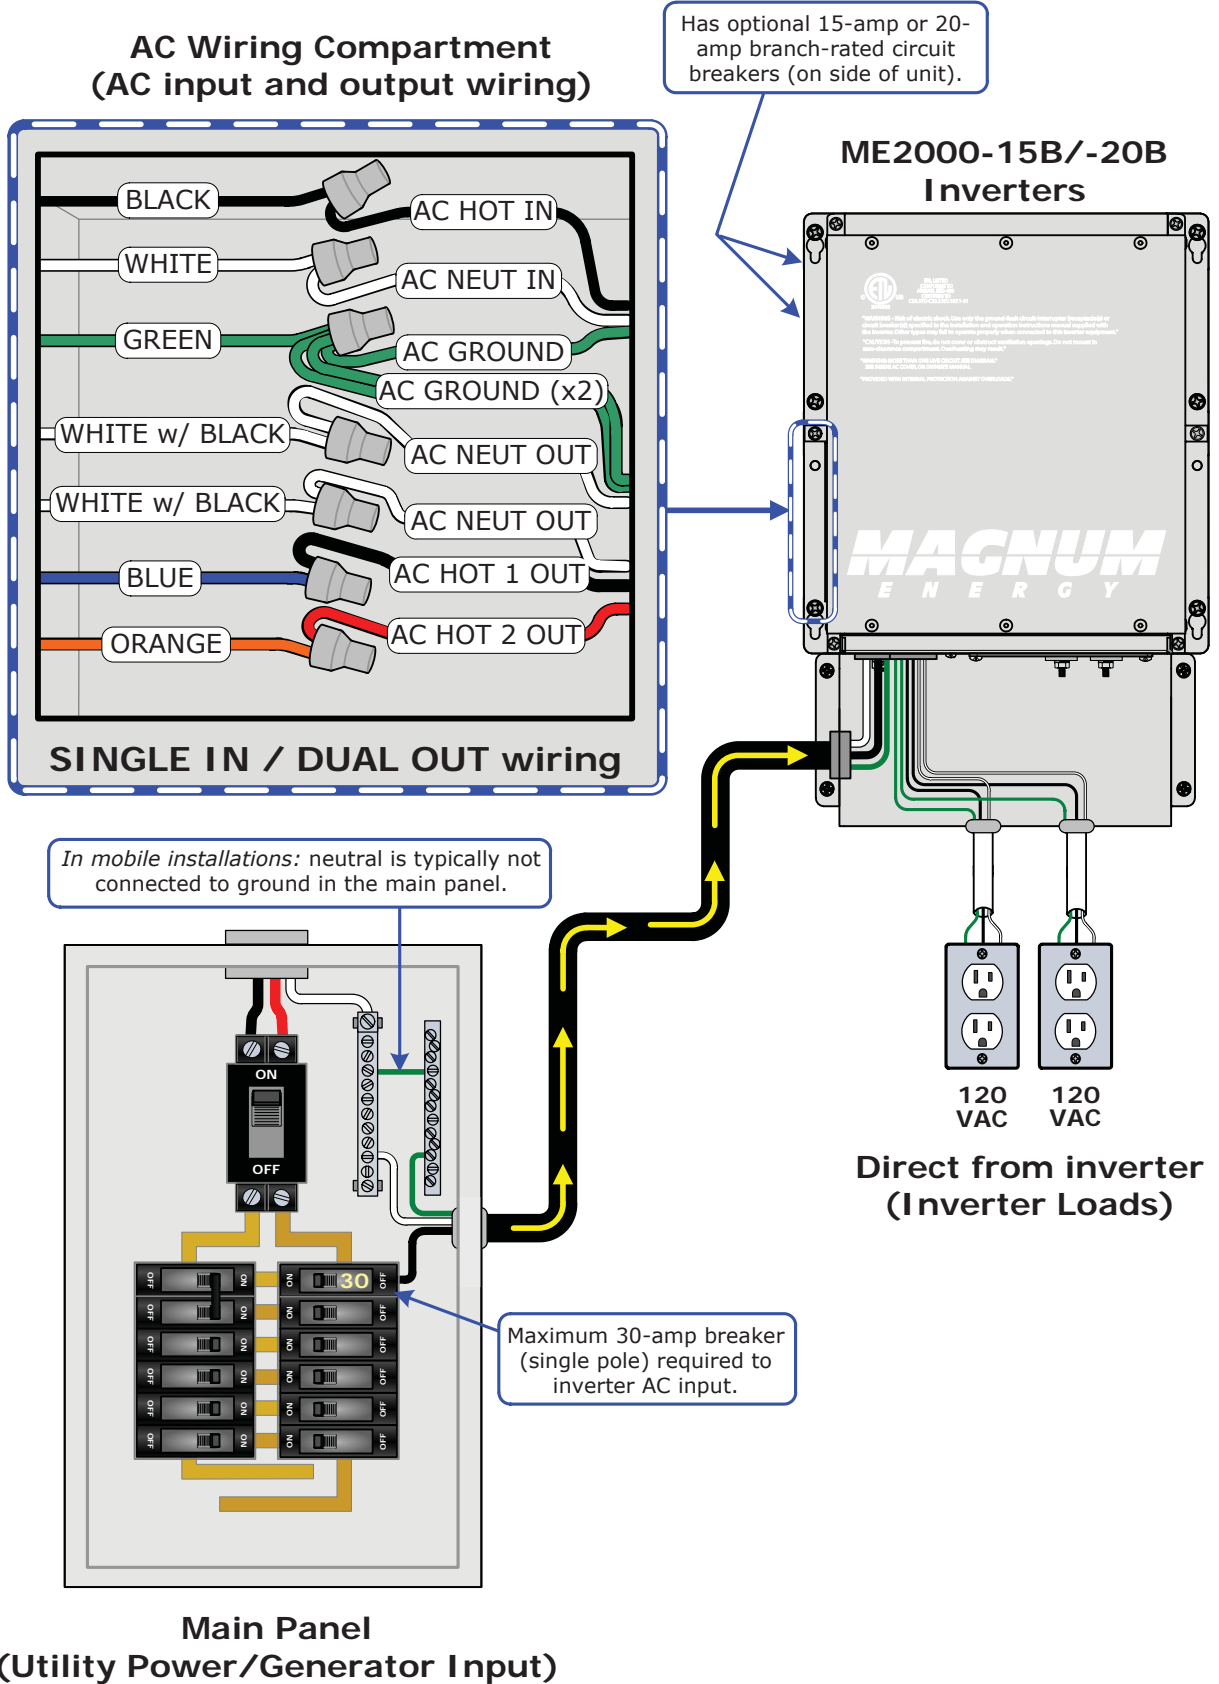

Figure 2-15, AC Wiring for ME2000-15B/-20B Models
Info: Depending on the AC wiring configuration, you may need to connect a wire to the inverter's HOT 2 OUT (orange) wire (see Figure 2-15).
3. Connect the inverter's NEUTRAL OUT (white w/black) wire to the sub-panel's neutral busbar (or to the neutral connections on the outlets, if using the output breaker versions - see Figure 2-15) using field wiring leads.